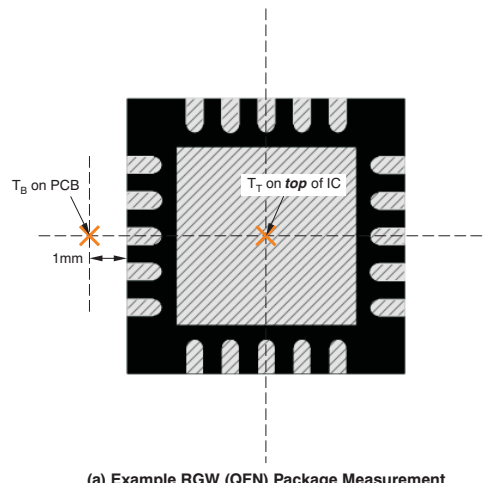

Figure 35. Measuring Points for T_T and T_B
T_B is the PCB temperature measured 1 mm away from the device *on the PCB surface* (as Figure 35 shows). (6)